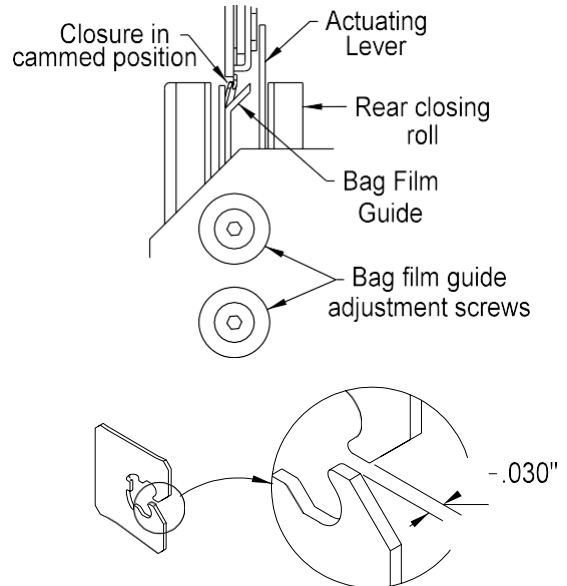

Figure 5.6
The clip pick is used to bring the bottom closure down into closing position following the breakoff cycle. The height of the pick is adjustable. Pick height is properly adjusted when the jaw (Figure 5.6) of the closure is located at the top of the closing roll, allowing the bag film to enter the closure smoothly. To adjust pick height:
F. CAM THE CLOSURE JAW: (Figure 5.6)